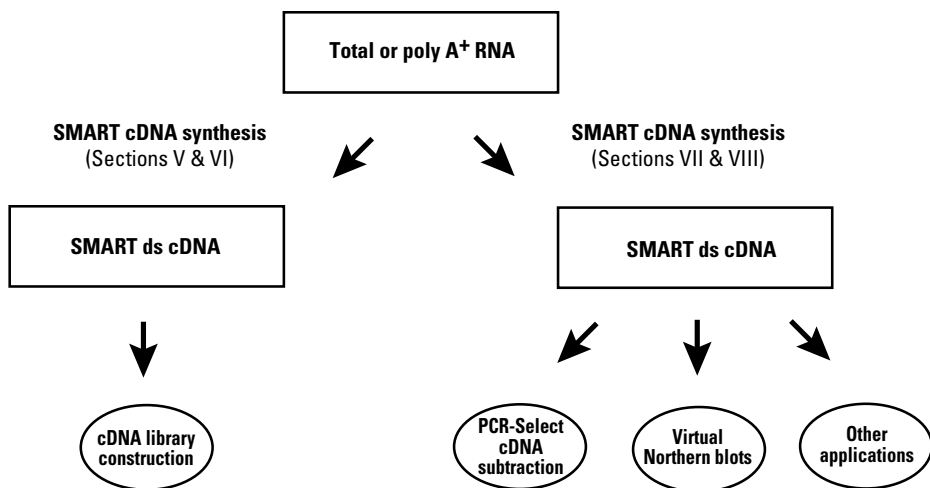

Figure 2. Guide to SMART™ cDNA synthesis protocols. Be sure to follow the appropriate protocol for your application.
The first kit to feature SMART technology is the SMART cDNA Library Construction Kit (Cat. No. 634901). This kit includes the components for directional cloning of full-length cDNA. To expand the range of applications, the SMART PCR cDNA Synthesis Kit (Cat. No. 634902; Figure 2) was introduced shortly after. This kit allows you to synthesize high-quality cDNA for library construction using your own vector and ligation reagents. Other applications include Clontech PCR-Select™
- This kit is designed for the construction of high-quality SMART cDNA for a variety of applications. This User Manual provides two protocols for cDNA synthesis: one for cDNA library construction (Sections V and VI), and one for other applications, including Clontech PCR-Select cDNA Subtraction (Sections VII and VIII). **Be sure to follow the appropriate protocol for your application (see Figure 2).**